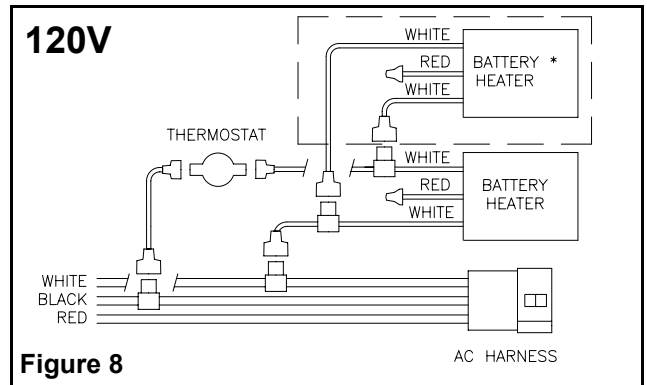
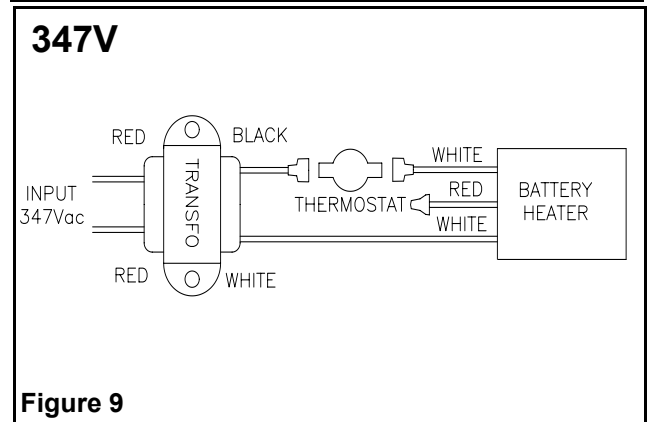

Figure 8
Figure 9
- Refer to figure 8 for 120VAC input voltage and to figure 9 for 347VAC. Use wire taps provided with the hardware kit to connect battery heater. Unused wires must be insulated to prevent shorting.